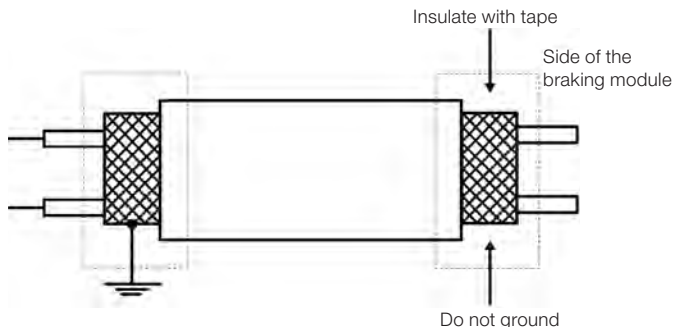

Figure 3.9: Shield connection
- If necessary, use shielded cables. The correct connection of the cable shield is showed in the figure 3.9.